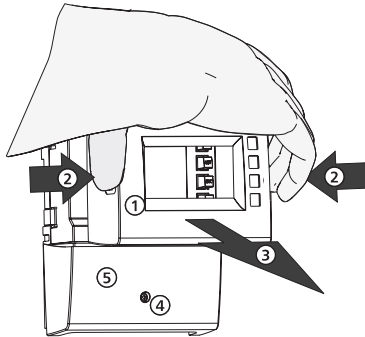

Fig. 1: Removing the front panel
- Grasp the front panel ① by the grooves at the sides ② and pull forwards ③ (Fig. 1).
1. Remove the screw ④ (Fig. 1).
2. Remove the terminal cover ⑤.